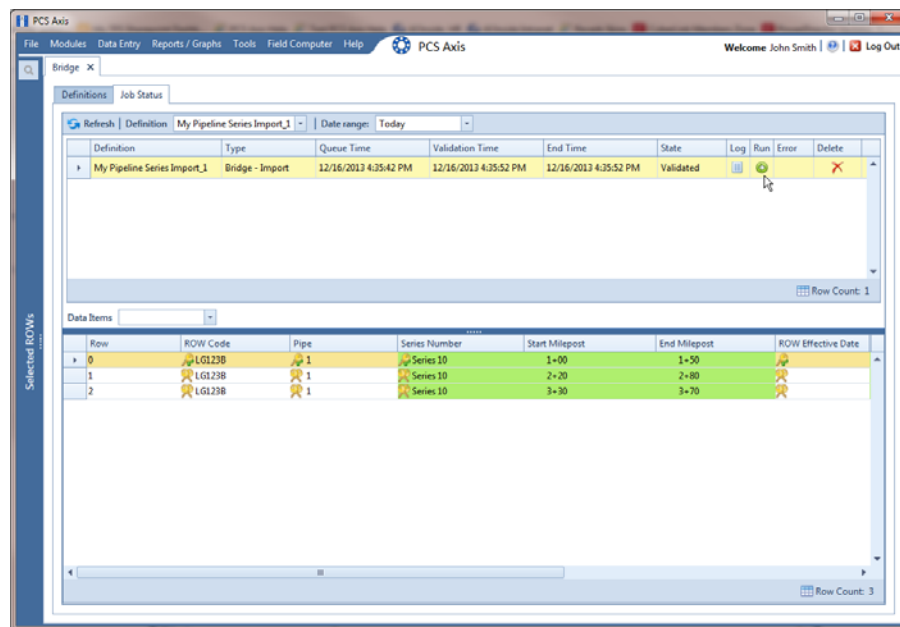

Figure 10-54. Job Status
- a If the *Job Status* window is open, click  **Run** for a selected import file listed in the *Job Status* window (Figure 10-54). Then click  **Refresh** to update status information.